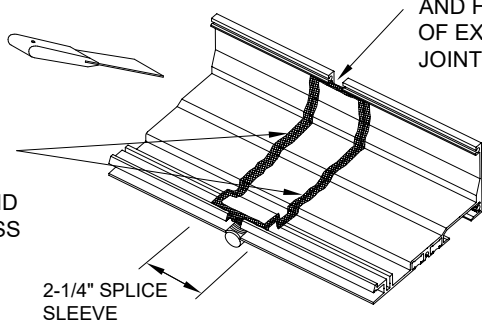

FIGURE 3
6. Center the Splice Sleeve over the joint. Then, using a putty knife, form the Splice Sleeve along the profile of the flashing. (Figure 3)
7. Silicone will squeeze out from under the Splice Sleeve. Use putty knife to tool off excess silicone. There should not be excessive build up of sealant thickness at the front and back of the splice where the horizontal sits down on top of the splice. (Figure 3)
8. Seal back and front of exposed joint and marry into perimeter seals. Be sure to force sealant up under the Splice Sleeve in front. Seal the exposed joint. (Figure 3)